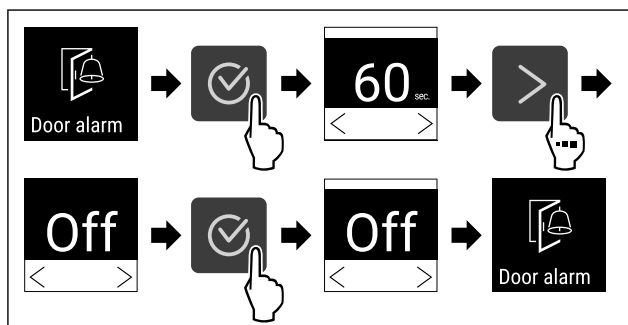

Fig. 97
- ▶ Complete steps (see Fig. 97) .